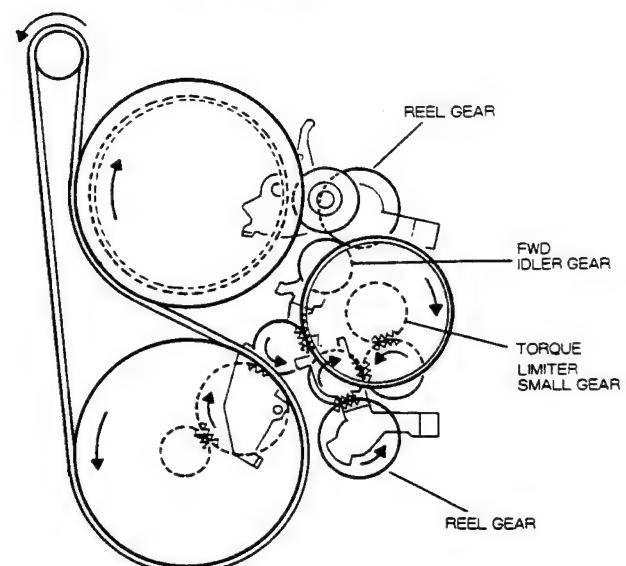

Fig. 18
- REV play is obtained when the FWD idler gear is released from the torque limiter small gear. (Fig. 18)